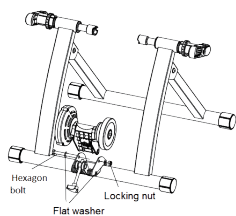
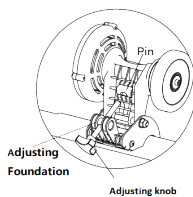

FIG.3
FIG.4
- 1.3** As shown in Figure 3 and Figure 4, move the adjusting foundation to the bottom by hand, then install the reducing wheel on the frame, and please pay attention that the adjustment knob shall be penetrated into the pin hole.